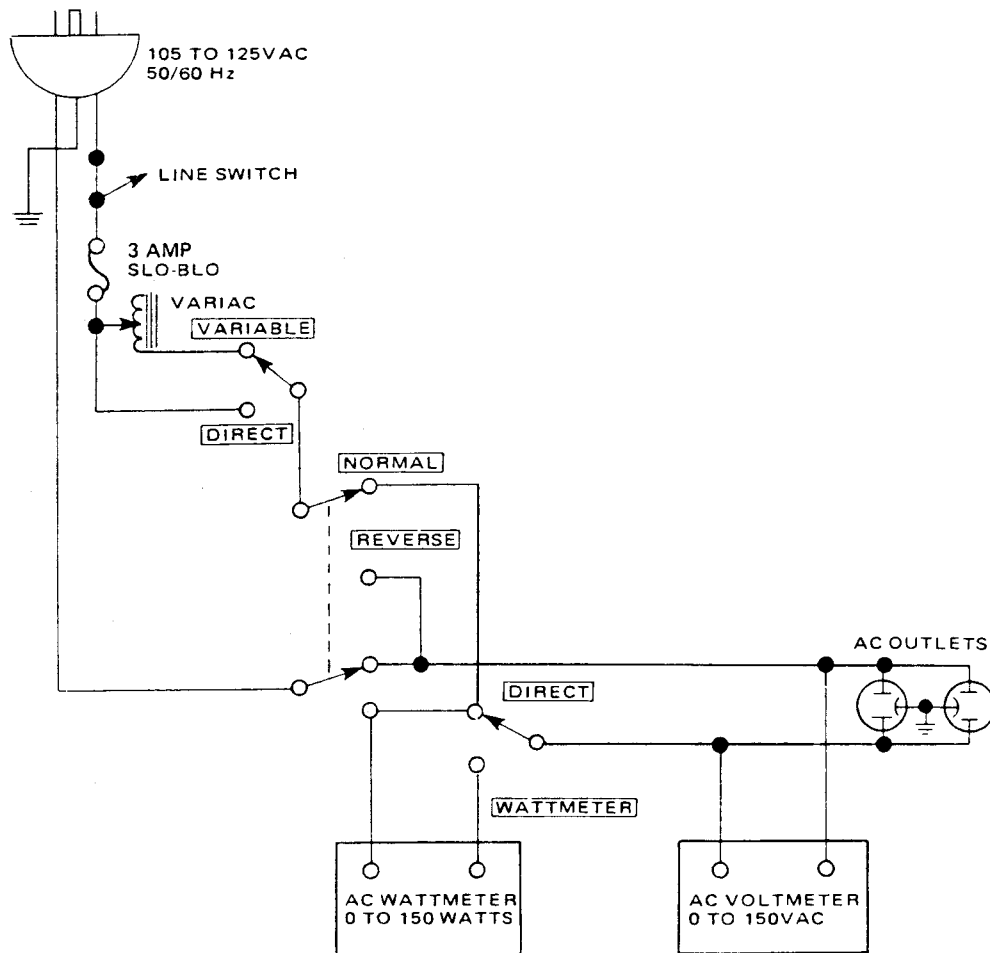
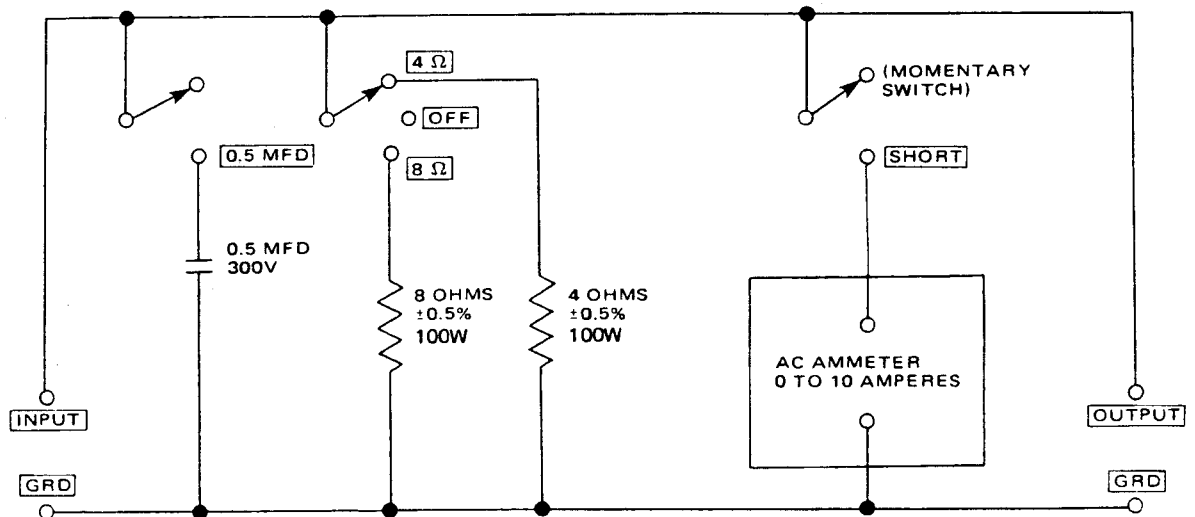

Figure 1. AC Power Control Box Simplified Schematic
Figure 2. Amplifier Output Load Box Simplified Schematic
Table 1 lists the test equipment required for servicing the PM 200 Stereo Console Amplifier. The wattmeter, AC voltmeter, and variable autotransformer may be assembled as a test fixture as shown schematically in Figure 1. The load resistors and AC ammeter may be assembled into a second test fixture as shown in Figure 2.
1. Make the test setup shown in Figure 1 with the instrument controls set in the following positions: